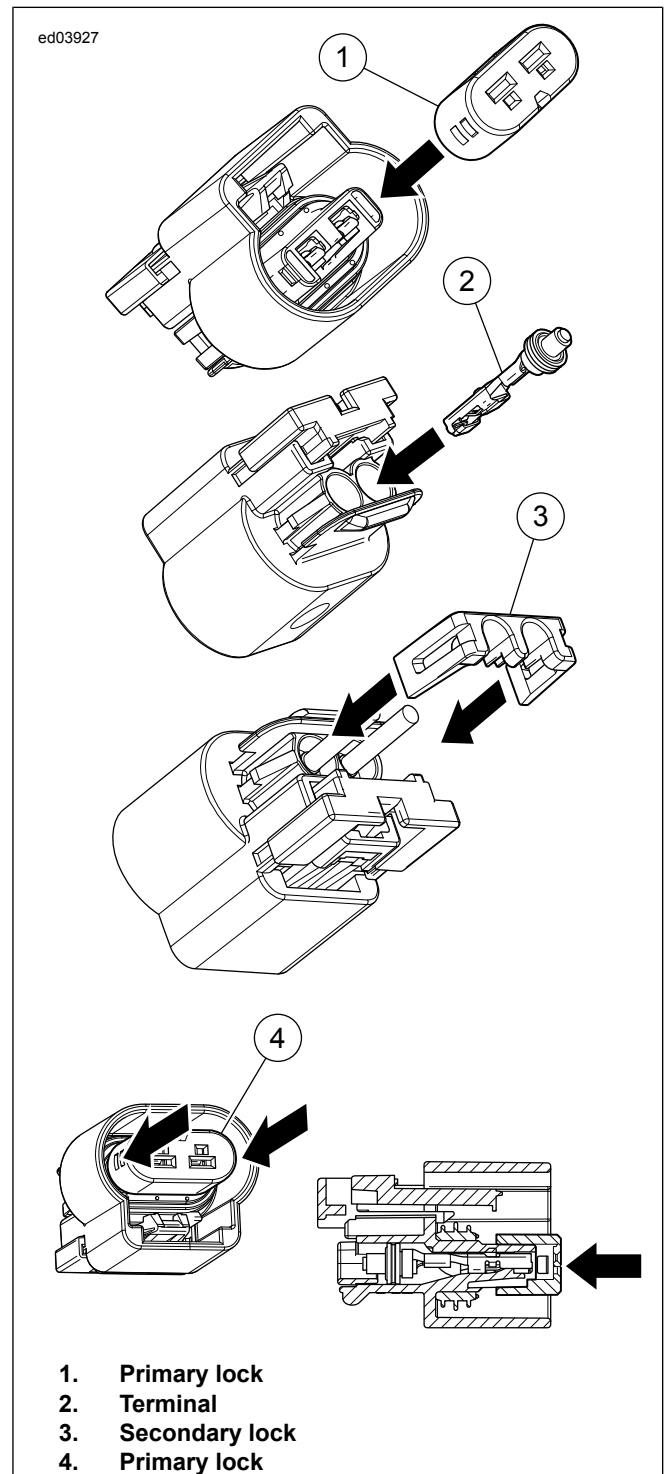

Figure B-10. Terminal Installation
1. See Figure B-10. Insert the primary lock into the outer most position on the connector.